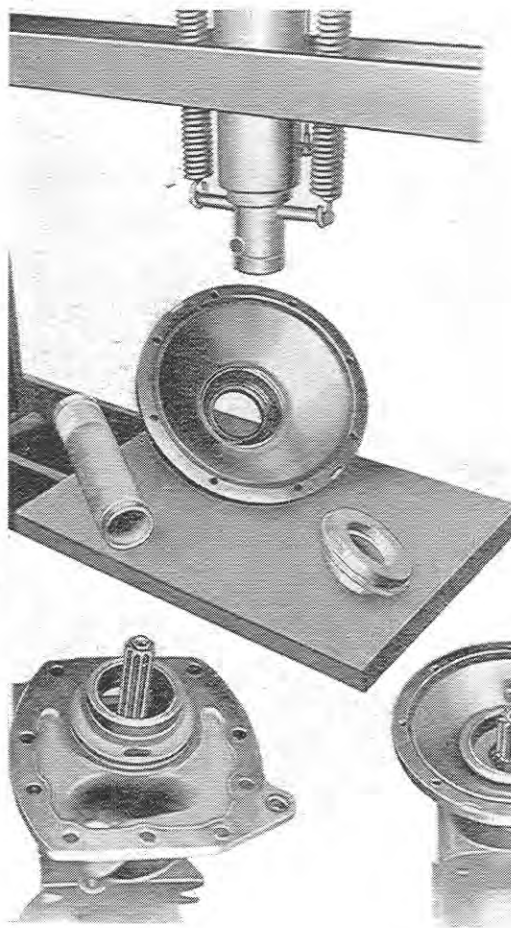

Fig. 4
- 1) If necessary, fit the bearing cups in the axle housing by means of the special tool MICO-A and the hollow handle MIGA (Fig. 4).
- the reduction cover, the bearing cup by means of special tool MICO-A and the handle MIGA (Fig. 4) and the oil seal by means of special tool MIBI and the handle RASO (Fig. 9).